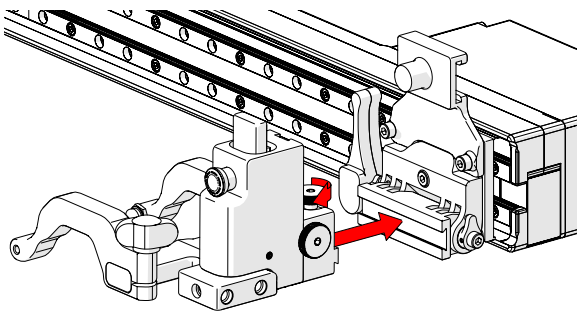

Fig. 88 - Mount probe holder to carrier
1. Loosen the probe holder adjustment knob (*Fig. 88*) and mount the heavy duty vertical probe holder's dovetail jaw to the carrier.